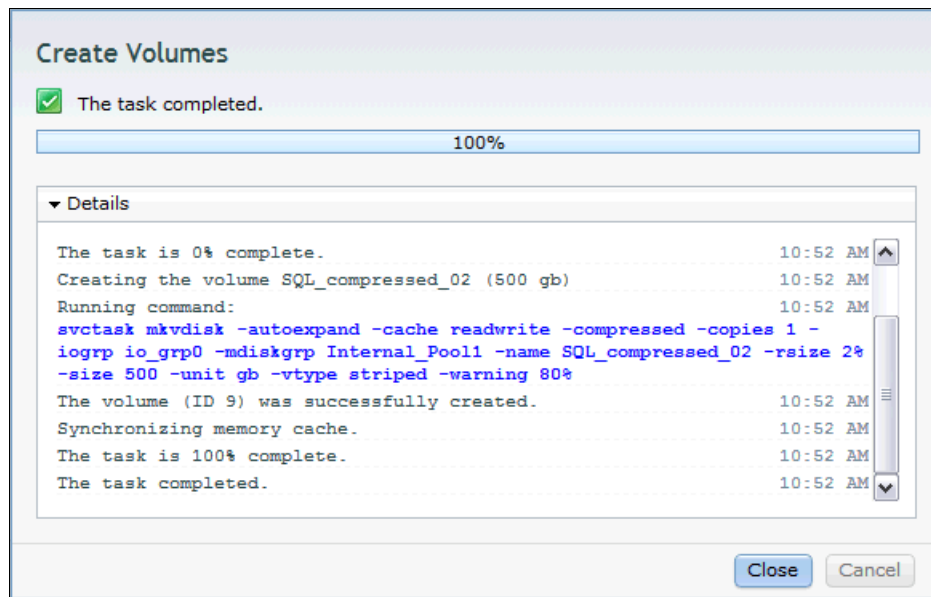

Figure 6-22 Compressed Volume- CLI command displays
4. The Compressed volume is created while the CLI command displays (Figure 6-22).